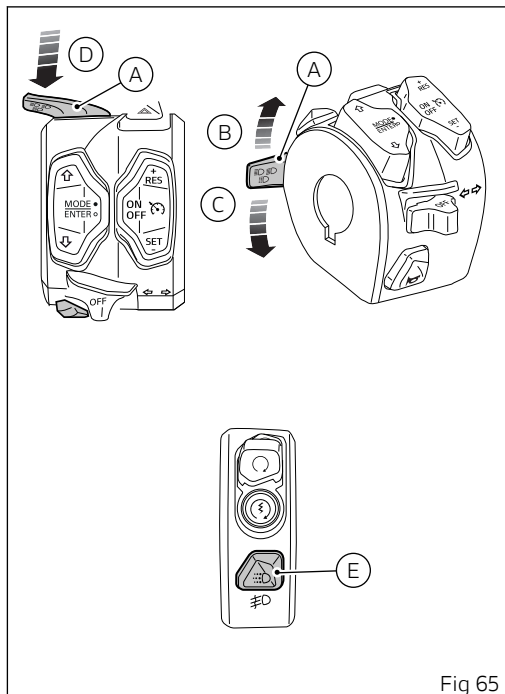

Fig 65
When the DRL is set to "Auto" mode, the corresponding warning light (13, Fig 92) will turn on. If the DRL was set to "Auto" mode, press button (E, Fig 65) to disable that mode and set manual light management. Press again button (E, Fig 65) to re-enable DRL but with control strategy set to "Manual".
To switch on or off the DRL lights, it is necessary to press button (E, Fig 65).
- if DRL lights are present, press and hold button (E, Fig 65) for a long time;
- if DRL lights are not present, press button (E, Fig 65).